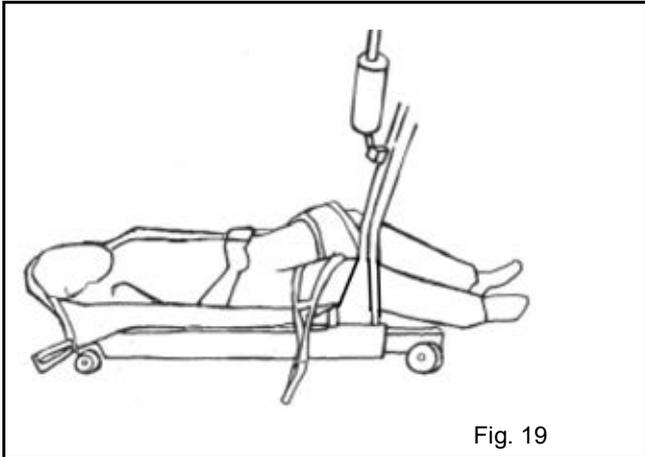

Fig. 19
- 2) The spreader bar should then be hanging over patient's chest and the patient legs to one side of the base of lift (see Fig. 19).